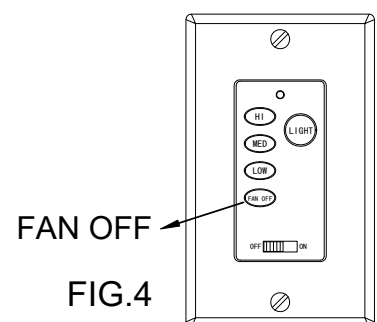

FIG.4
- Press the "FAN OFF" button for 3-5 seconds (FIG 4) until the fan starts to operate.